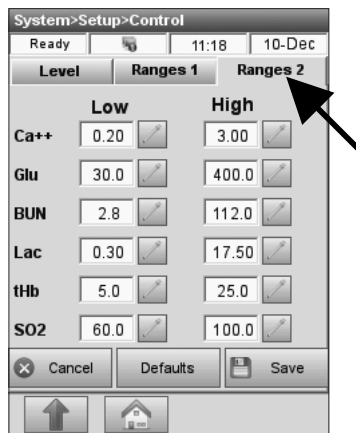

Fig. 3-10 Confirm Assay Ranges
9. Press **<Ranges 2>** to go to the next display to enter the ranges for all other measured parameters available with this control material (Fig. 3-10).